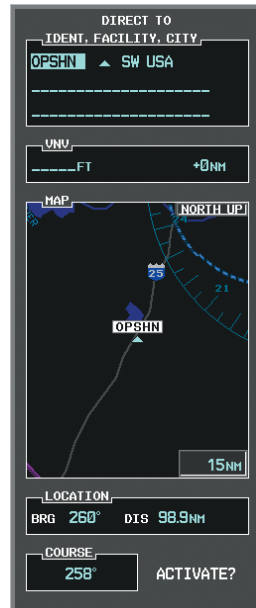

Figure 5-127 Direct To OPSHN
- c) Press the **Direct-to** (D➤) Key. The Direct-to Window is now displayed as shown in Figure 5-127.